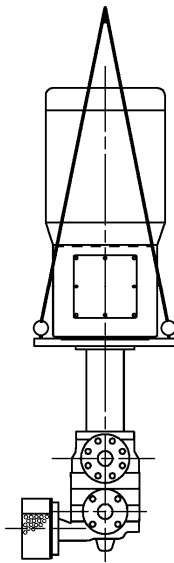

Figure 1. Sling Position for Moving Pumping Unit
Moving the unit requires proper preparation and handling. Always make sure that the pump cannot slip out of the transport suspension arrangement. Four lifting eyes shall be inserted in the bolt holes on each corner of the base (39). Attach the hoisting chain to the lifting eyes. (Figure 1) The individual motor may be lifted using proper eyebolts provided by the manufacturer, but these should not be used to lift the assembled unit.